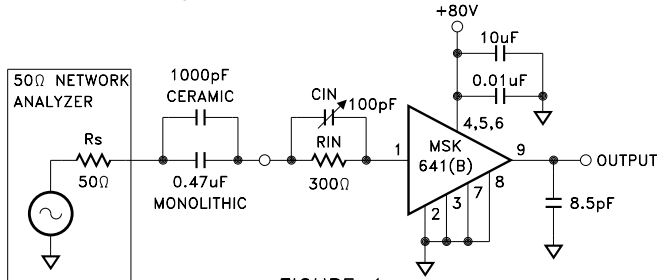

FIGURE 1
- ① R_{IN} = 300Ω, C_{IN} = 100pF, C_{LOAD} = 8.5pF, R_L = ∞, unless otherwise specified (See Figure 1).
- ② Guaranteed by design but not tested. Typical parameters are representative of actual device performance but are for reference only.
- ③ Industrial grade devices shall be tested to subgroups 1 and 4 unless otherwise specified.
- ④ Military grade devices ('G' suffix) shall be 100% tested to subgroups 1,2,3 and 4.
- ⑤ Subgroup 5 and 6 testing available upon request.
- ⑥ Subgroup 1,4 T_A = T_C = +25°C
The signal source in Figure 1 can be either a fast pulse generator or a network analyzer as long as the output impedance is 50 ohms. The DC level of the input should be 1.55V and all cables should be kept as short as possible. Since total load capacitance should be kept below 8.5pF, a FET probe should be used on the output.
Transimpedance amplifiers relate input current to output voltage. The MSK 641 contains an internal 4K Ω feedback resistor. This resistor converts input current to output voltage in the following manner (See Figure 1):